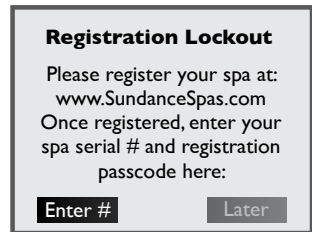
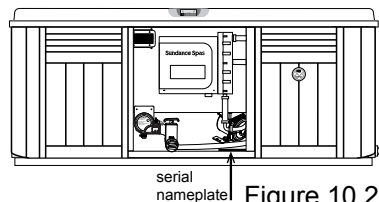

Figure 10.2a
Figure 10.2b
Registering your spa is important in order to validate your warranty, Figure 10.2a. In order to register you will need to have the spa serial number, Figure 10.2b, then you will need to register online in order to receive a passcode (not applicable to export models). The passcode must be entered on the control panel in order to unlock the registration lockout.
1. From the registration screen, Figure 10.2a, tap **Enter #** to enter the spa serial number.